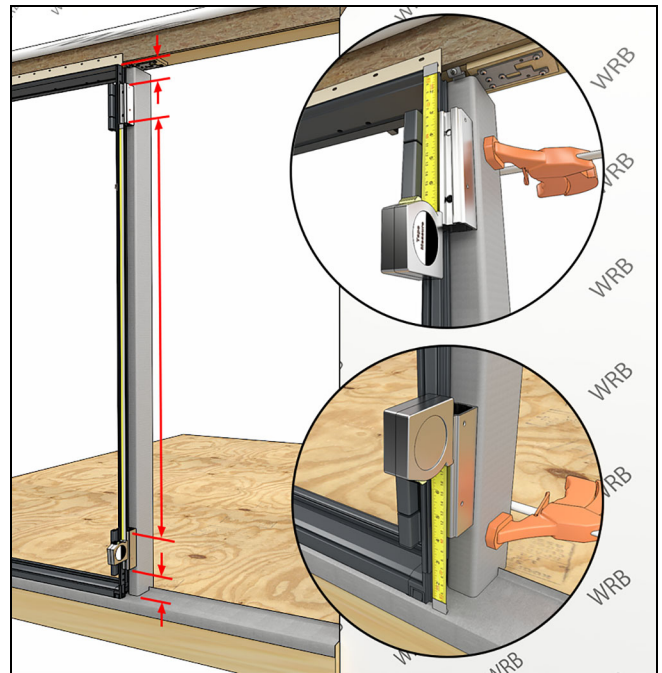

Figure 258
3. Measure and cut the vinyl mull filler to length to fit between the aluminum mull fillers (within 1/8"). Additionally, cut blocks to fit at the top and bottom of the aluminum mull fillers (minus 3/8"). See Figure 258.